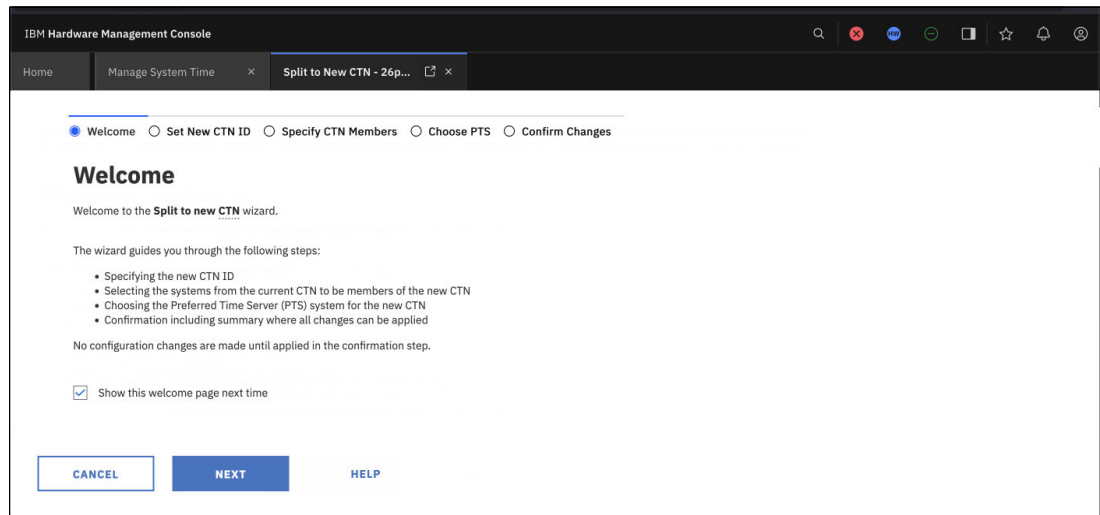

Figure 5-8 Split CTN Welcome menu
2. Click **CONTINUE** and the Welcome menu is displayed (Figure 5-8 on page 116).